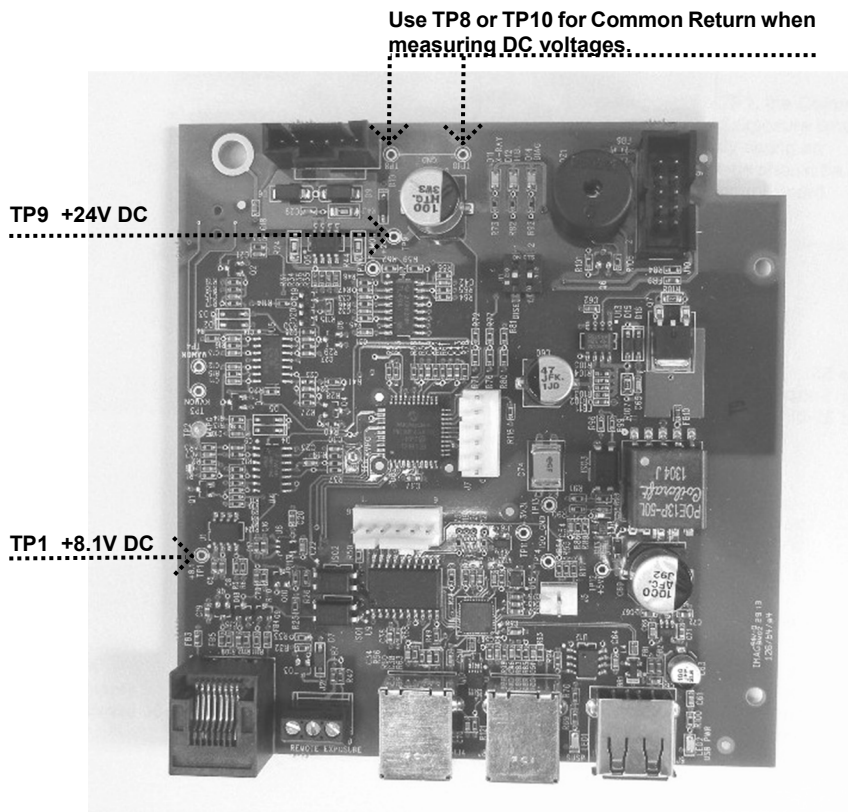
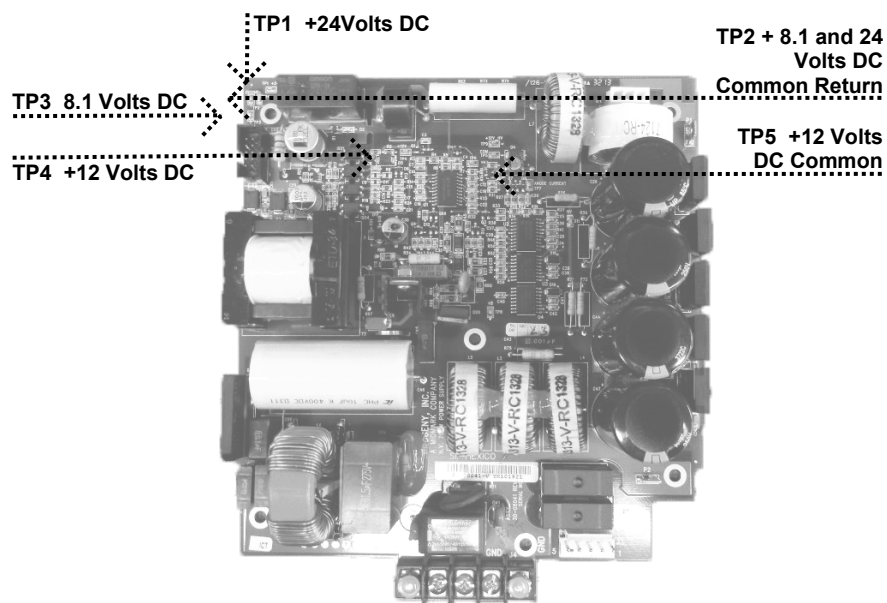

Figure 62
Figure 63
2. On the Power Supply Board, *Figure 63*, use TP2 as a common test point to check TP1 +24 volts DC and TP3 8.1 volts DC. Then, use TP5 as the common return to check TP4 for the presence of +12 volts DC, as shown in *Figure 62*. Should any of these voltages not be present, replace the Power Supply Board.